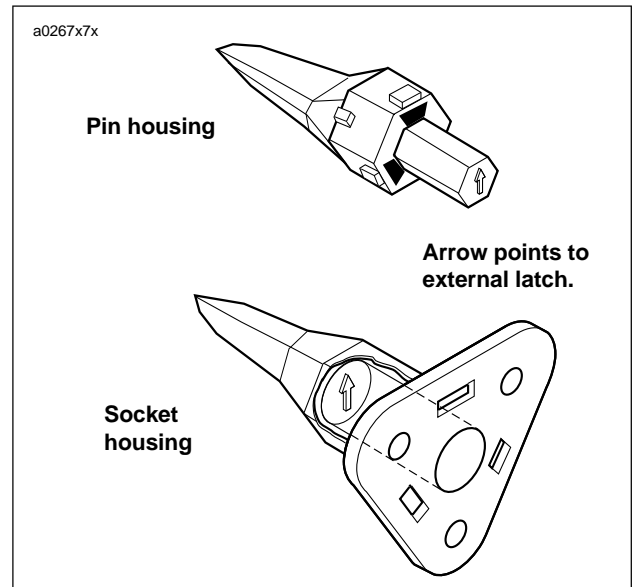

Figure B-2. 3-pin Locking Wedge Orientation
- *The conical secondary locking wedge of the 3-pin connector must be installed with the arrow pointing toward the external latch. See Figure B-2.*